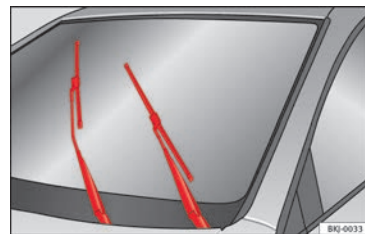

Fig. 89 Wipers in service position.
- Turn the ignition on and off and then (with-in approximately 9 seconds) push the windscreen wiper lever down (short wipe). The windscreen wipers will move to the service position » **Fig. 89.**